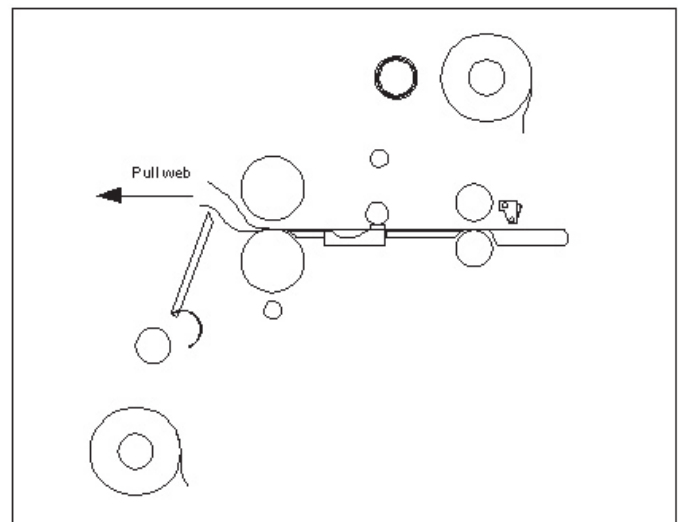

Fig 36
5. Carefully grab hold of the web (top and bottom film), from the front operating position and pull towards you (Figure 36).